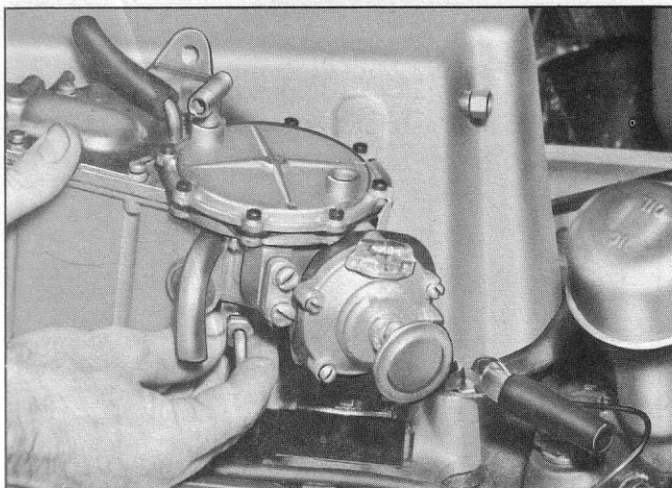

Fig. 35—Disengaging Fuel Nozzle Line
11. Rotate the fuel meter clockwise slightly and disengage the fuel nozzle line loosened in Step 5 (fig. 35).